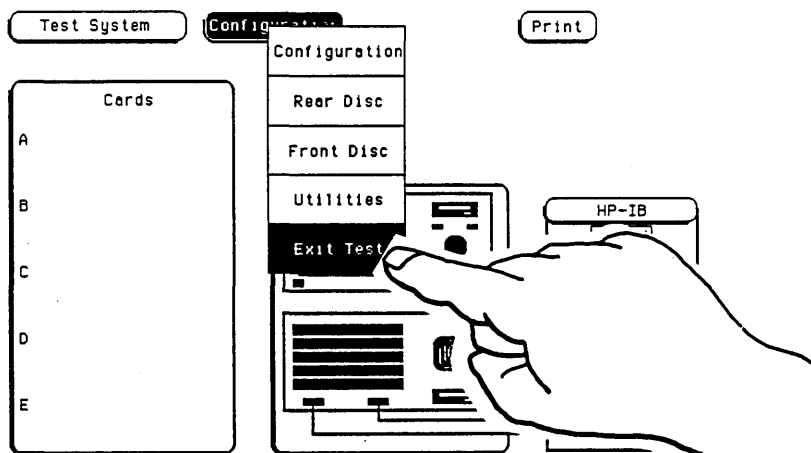

Figure 6-15. Exiting Test Configuration
- c. Select the **Configuration** field and touch **Exit Test** (see figure 6-15).